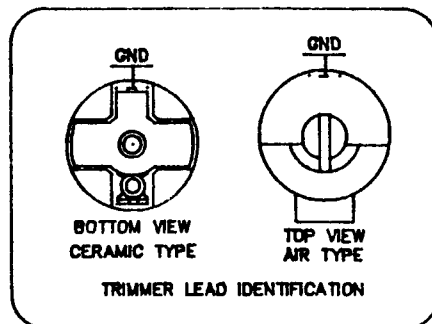

FIGURE 7
8. Insert and solder the trimmer capacitors. Trimmer capacitor orientation is critical! The outlines on the layout represent the body pattern of the capacitor. The rotor must be oriented to the ground foil on the board. See page 7 fig. 7.
4. Shut off the power supply. Connect the meter in series with the positive lead of the supply (meter + to + output of the supply, meter - to the +12V input of the transmitter), as shown in page 12, fig. 7, switch the meter to the 1 or 2 ampere scale.